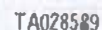
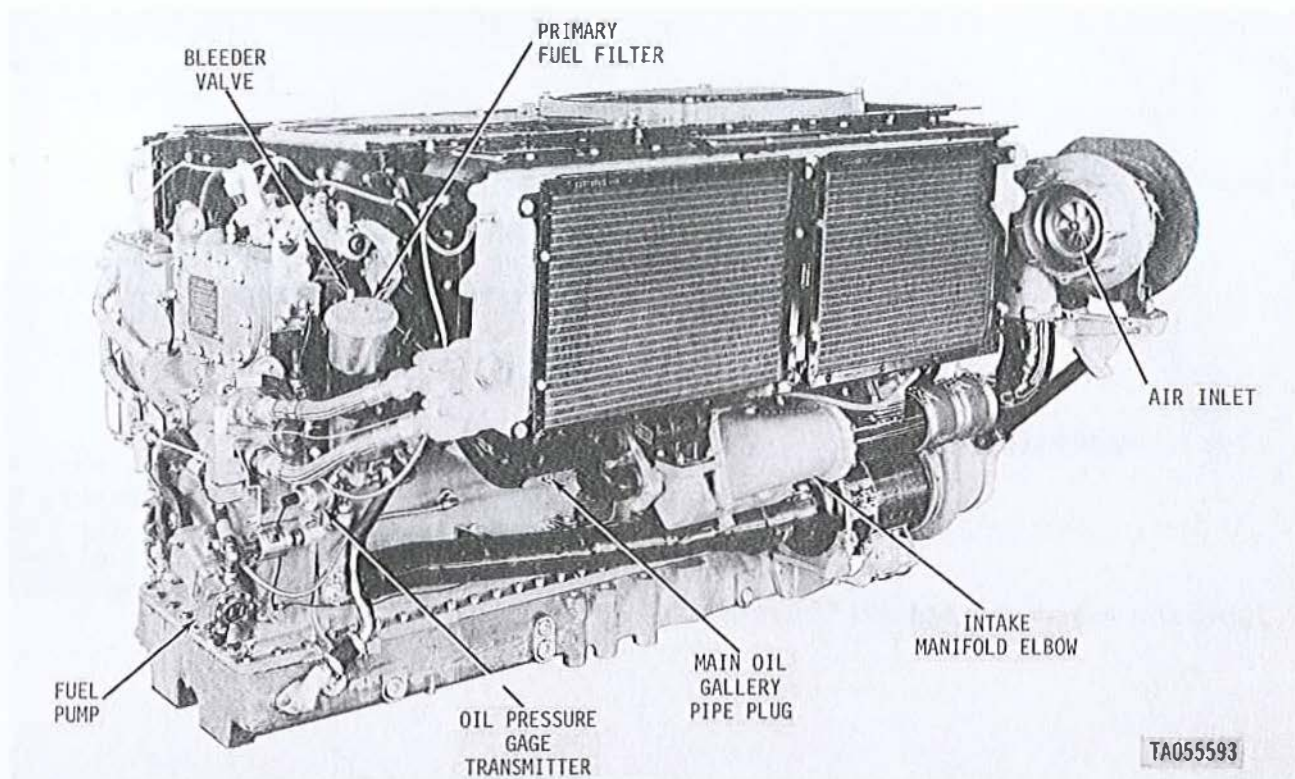

Figure 3-338. Engine connection points—right front view, model AVDS-1790-2C and AVDS-1790-2D engines.
Figure 3-338.1. Engine connection points—right front view, model AVDS-1790-2DR engine.
(5) Check operation of manual fuel shutoff (fig. 3-338). Refer to figures 3-338.1 and 3-339 for engine connection points.
(7) Open bleeder valves (fig. 3-338.1) on both the primary fuel filter and the fuel/water separator filter. Turn on source supply fuel pump and bleed air from filters. Close bleeder valves when fuel flows from filter.